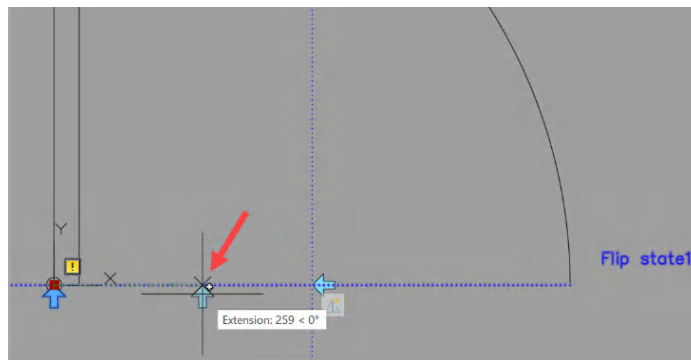

Figure 11.22: Repositioning the flip grip using grips
- Click to position the parameter label. The *flip grip* appears to the left on the first point of the reflection line. It can be moved toward the middle of the door swing by clicking on it and positioning it using the blue grip that appears, just like any other AutoCAD grip. This is shown in *Figure 11.22*.